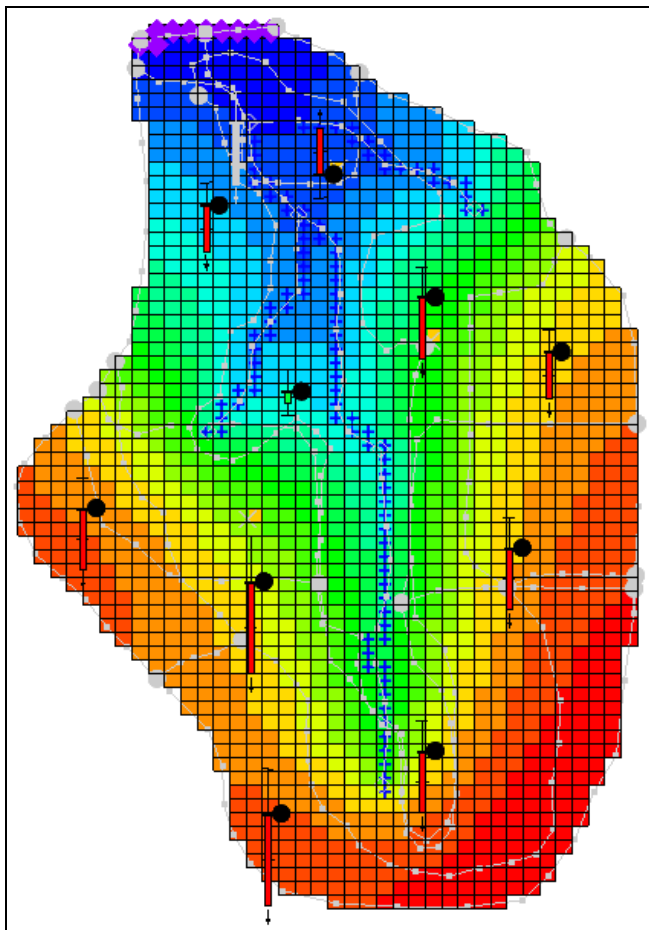

Figure 1 The initial MODFLOW model
4. Click **Open** to import the project and exit the *Open* dialog. The initial MODFLOW model should appear as in Figure 1.